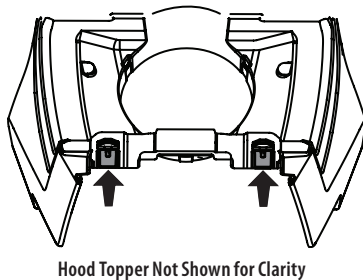

Figure 7
- Once the hood topper is in place, the two locking tabs near the rear of the hood need to be pushed upward to lock the hood topper in place. See Figure 7.